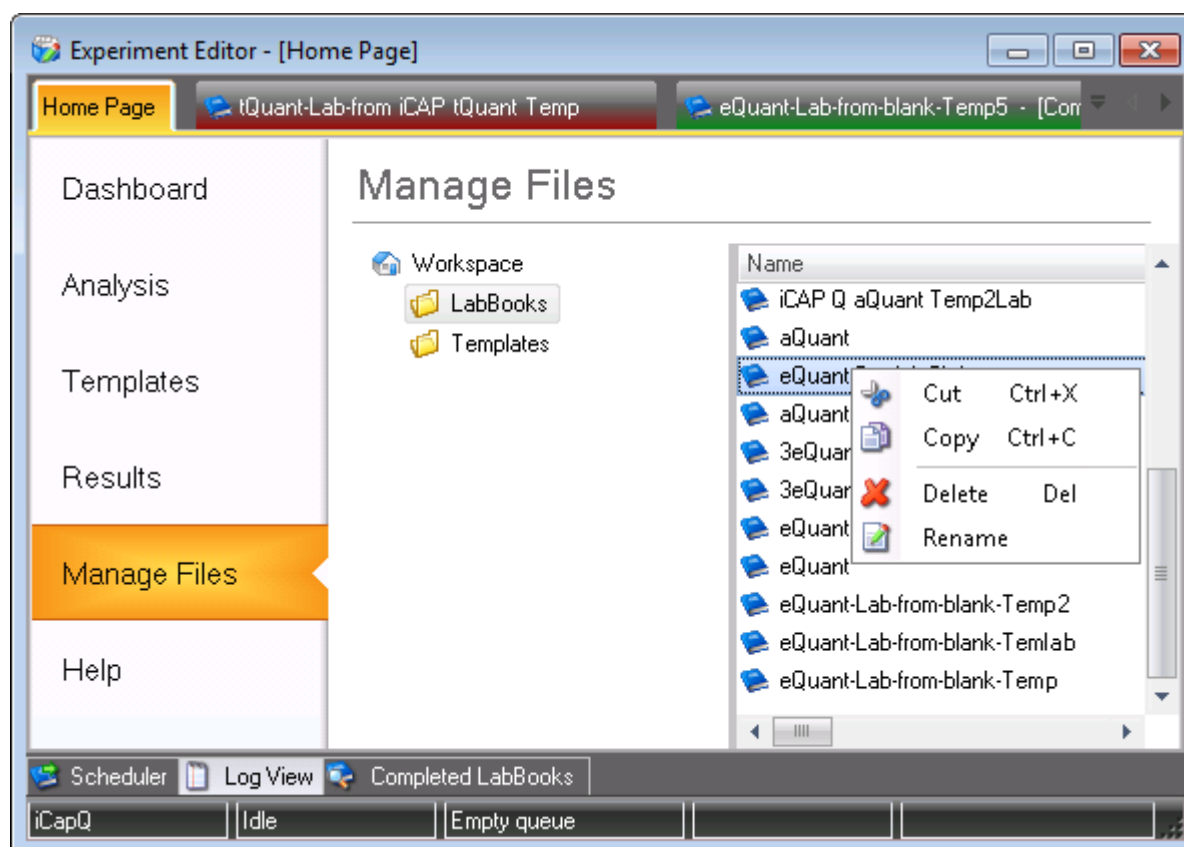

Figure 5-36. Context menu of file
4. Right-click on the file you wish to cut, see Figure 5-36.